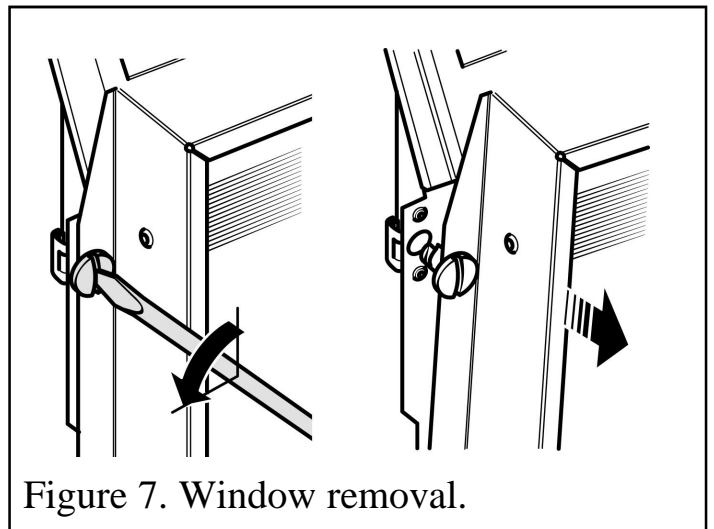

Figure 7. Window removal.
**5.3.7.** Remove the window unit by turning the screws each side of the window frame  $\frac{1}{4}$  turn anticlockwise and lifting the unit clear. (See figure 7). The flattened end of the smoke match tube can act as a screwdriver.